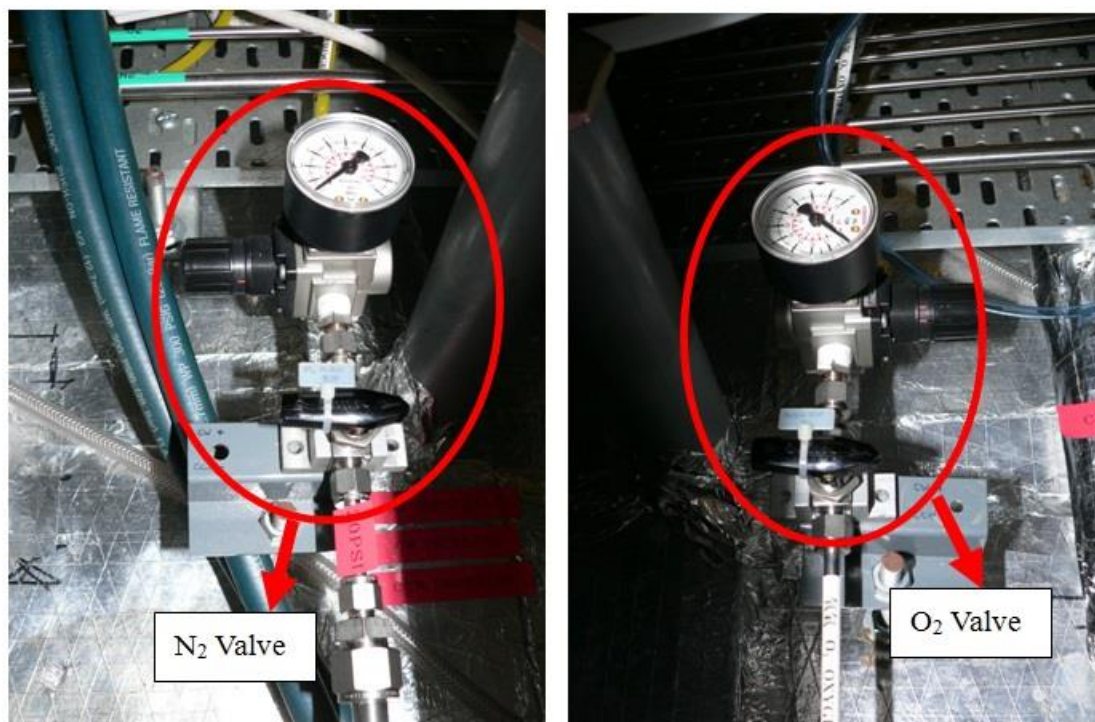

Fig.3 Location of N₂ and O₂ valves underneath the floor
3. The N₂ valve or O₂ valve is opened (Depend on which gas the process is going to use). Make sure that there is positive pressure shown on the regulator (Fig.3).